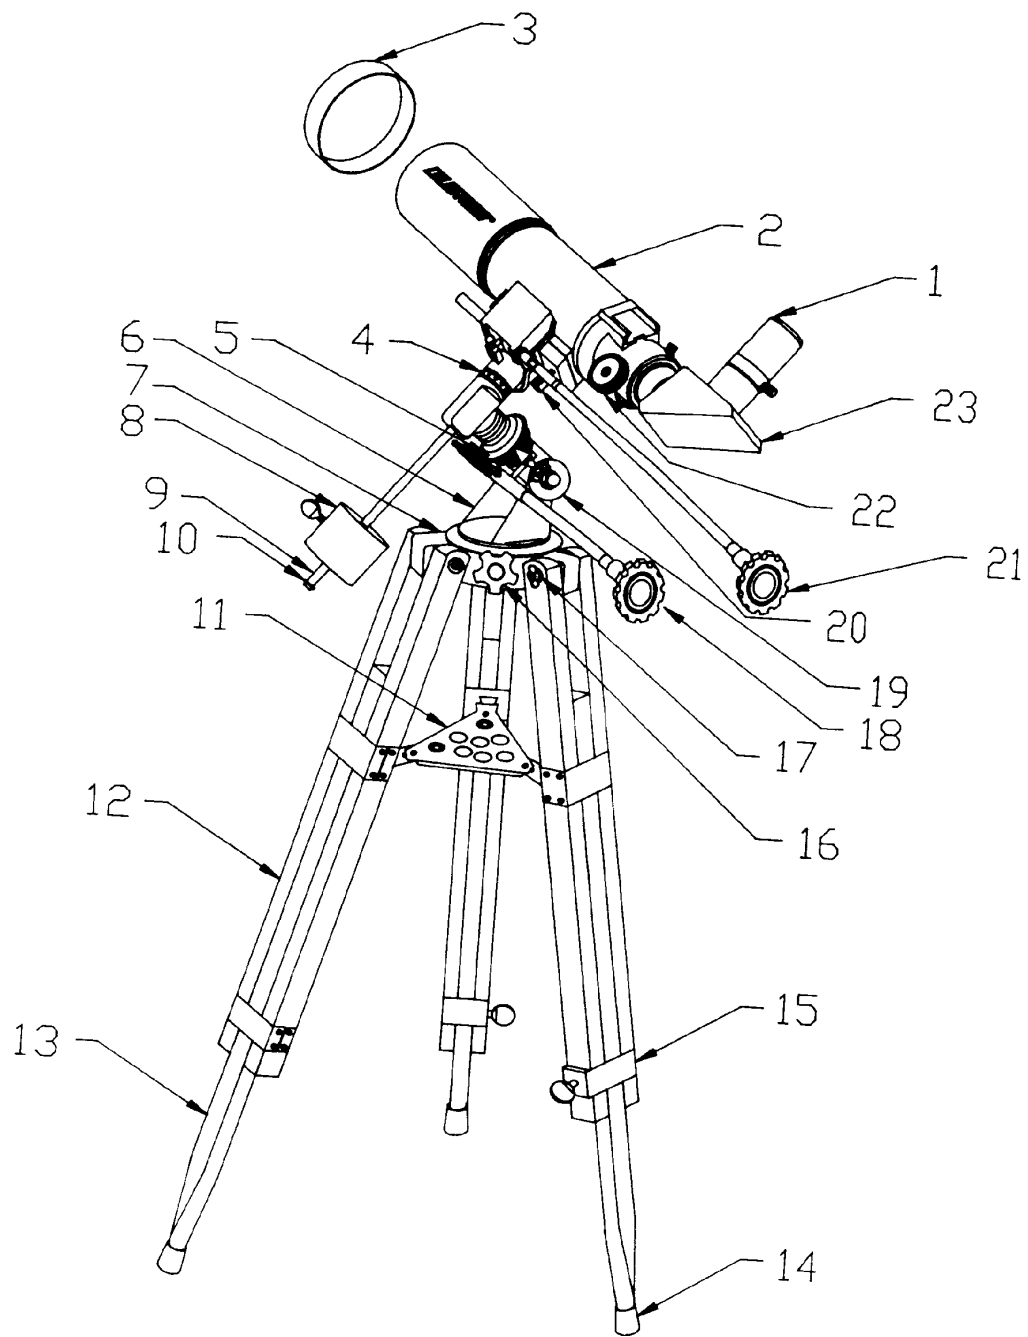

Figure 1
Please refer to figures 1 and 2 (and the identifying parts list) as you assemble the telescope.
- B. Before proceeding further, locate knobs #19 and #16 and tighten them finger tight after orienting the mount as illustrated in figure 1.
4. Slide the counterweight shaft (#9) through the counterweight (#8). Use the counterweight lock (#10) to lock the counterweight in place. By holding the counterweight in one hand, thread the counterweight shaft clockwise into the equatorial mount as shown in figure 1.